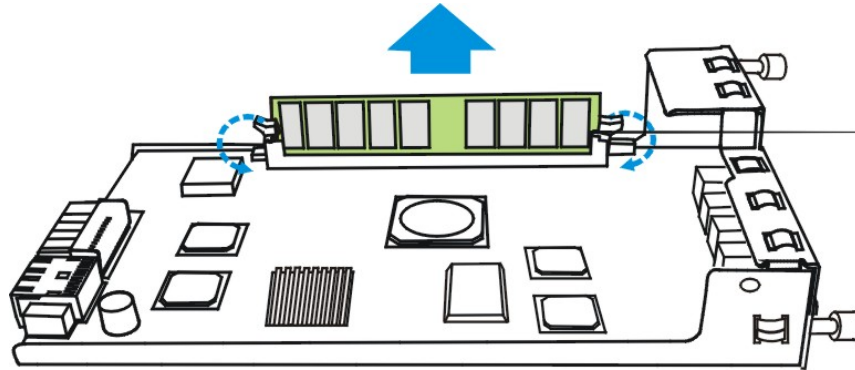

Figure 5-2: Push Back the White Clips on the Sides of the DIMM Module
- Step 2. **Remove the previously installed DIMM module from the DIMM socket.** To do this, push the white clips on either side of the DIMM module down. By doing this, the previously installed modules will be ejected from the DIMM socket. (See *Figure 5-2*)
- Step 3. **Gently retrieve the DIMM module out of the DIMM socket.** (See *Figure 5-2*)